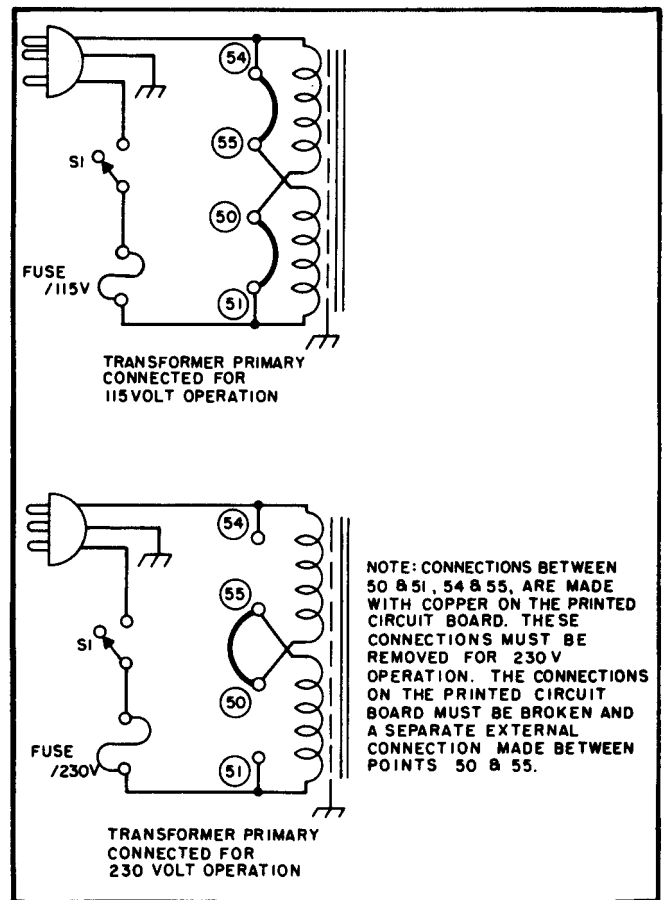

Figure 2-1. Primary Connections
(Figure 2-1)
- b. Break the copper between 54 and 55 and also between 50 and 51 on the printed circuit board. These are shown in Figure 2-1, and are labeled on copper side of printed circuit board.